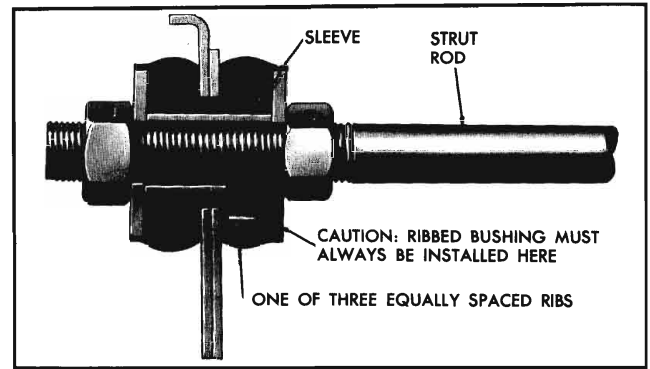

Fig. 3-26 Strut Rod Bushing Stack-up
1. Install the forward nut onto the rod. Position it about 1" from front end of threads. Install the spacer and rubber bushing with three equally spaced ribs. (Fig. 3-26).